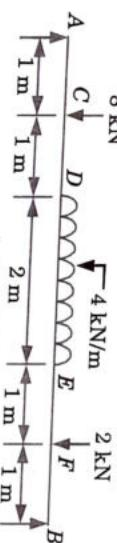

Fig. 1.28.1.
**Que 1.28.** For the beam shown in Fig. 1.28.1, draw the shear force and bending moment diagram.
Given : Fig. 1.28.1.